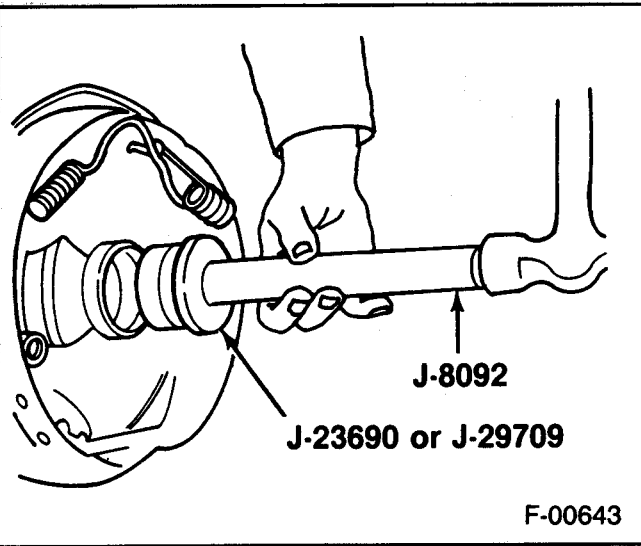
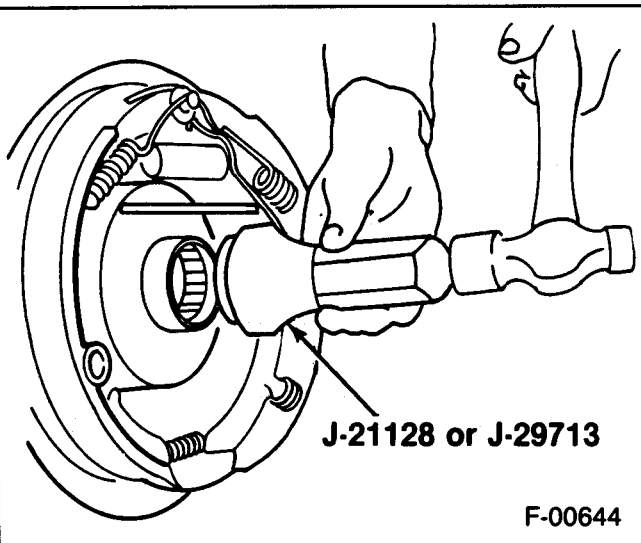

Figure 13—Installing The Wheel Bearing
Figure 14—Installing The Seal
- Bearing (15) into the axle (16) housing until the tool bottoms against the tube. Refer to figure 13.
2. Seal (14).
- Drive the tool into the bore until the seal (14) bottoms flush with the end of the tube (figure 14).
3. Axle shaft (12).
- Be careful not to damage the seal (14) when inserting the axle shaft (12).